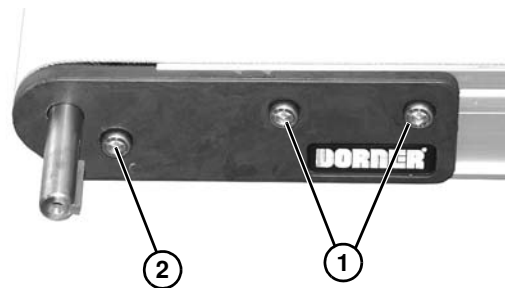

Figure 3
2. Remove two screws (Figure 3, item 1).
3. Install screw (Figure 3, item 2) and washer.